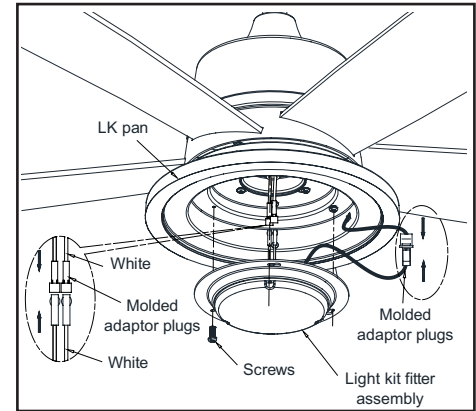

Figure 15
3. Remove one screw from the light kit pan and loosen, but do not remove the other two screws. Connect the wires from the light kit fitter assembly to the wires from the fan motor assembly by connecting the molded adaptor plugs together. Carefully tuck all wires and splices into the switch cap. (Figure 15)
4. Push the light kit fitter assembly up so that the two loosened screw heads fit into the keyhole slots. Turn the light kit fitter assembly clockwise, tighten the screws. Re-install the screw that was removed in step 3 and tighten firmly. (Figure 15)